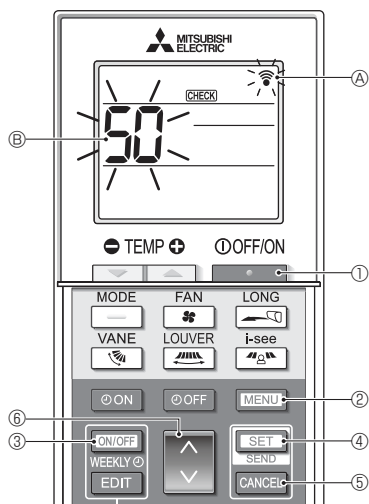

Fig. 6-3
1. Press the **POWER** button ① to stop the air conditioner.
- * If the weekly timer is enabled (**WEEKLY** is on), press the **ON/OFF WEEKLY** button ③ to disable it (**WEEKLY** is off).
2. Press the **MENU** button ② for 5 seconds.
- **CHECK** ④ comes on and the unit enters the self-check mode.
3. Press the **MODE** button ⑥ to set the displayed number ⑤ to "50".
- While pointing the wireless remote controller toward the receiver, press the **SET** button ④. (The unit number blinks.)
4. Press the **MODE** button ⑥ to set the unit number of the indoor unit. (Fig. 6-3)
- While pointing the wireless remote controller toward the receiver, press the **SET** button ④. (The mode number blinks.)
5. Press the **MODE** button ⑥ to set the mode number. (Fig. 6-3)
- While pointing the wireless remote controller toward the receiver, press the **SET** button ④. (The setting number blinks.)
6. Press the **MODE** button ⑥ to select the setting number. (Fig. 6-3)